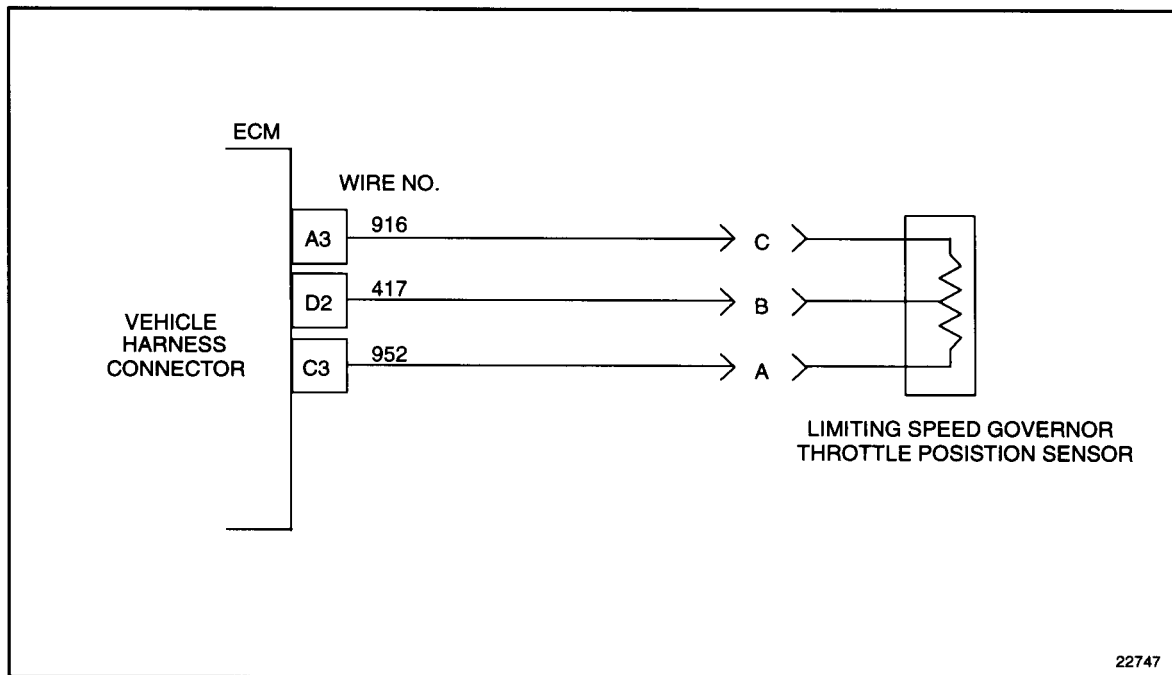

Figure 22-3 Throttle Position Sensor
3. Measure resistance between sockets A (return #952) and B (signal #417) at the TPS harness connector. See Figure 22-3.